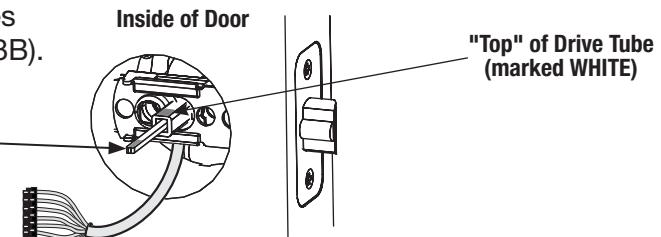

Figure 3B
- B. Ensure tailpiece is oriented in the horizontal position (Fig. 3B) and insert tailpiece through center of latch so that outside escutcheon is flush to the surface of the door.
under latch (Fig. 3B).